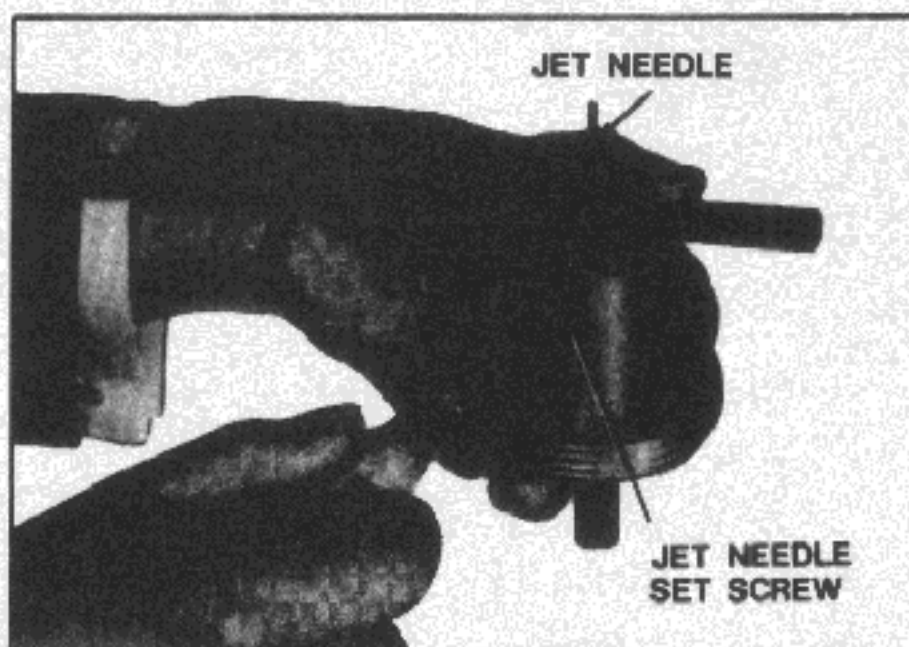

Fig. EF-77 Installing the jet needle
5. Idling and other operating performance features will be adversely affected if the jet needle is not installed correctly in the suction piston. Set the jet needle in the suction piston so that the shoulder portion is flush with the bottom of the suction piston. Apply an appropriate tool having a horizontal (flat) surface such as slide calipers to the lower end, as shown in Fig. EF-77, so that the shoulder of the jet needle contacts this surface, and tighten the jet needle set screw. The jet needle will then be installed correctly.